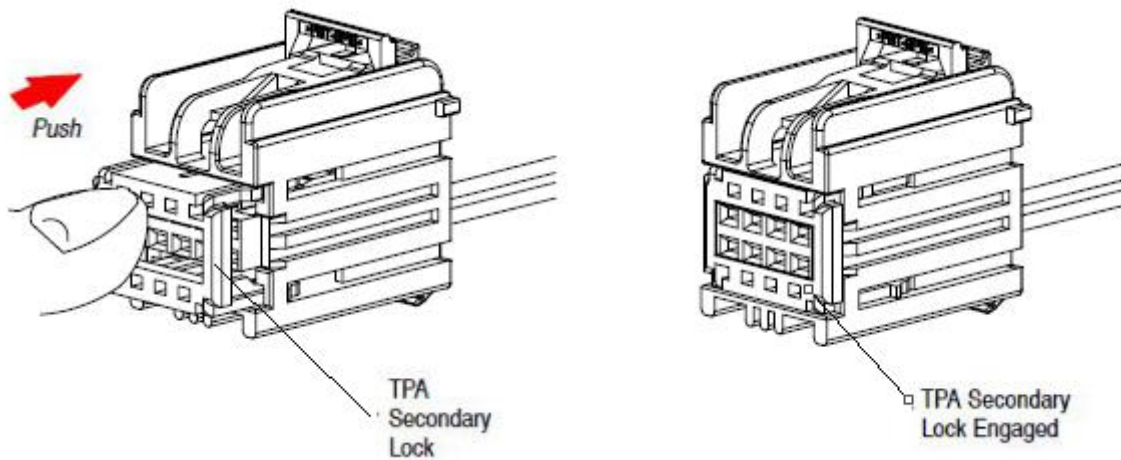

Fig 10.
- (3) When all of the required socket contacts have been inserted, complete the assembly by pushing the TPA into the fully locked position. The TPA may be fully locked by holding the rear of the plug connector assembly and pushing the TPA toward the rear of the connector. See Fig 10.